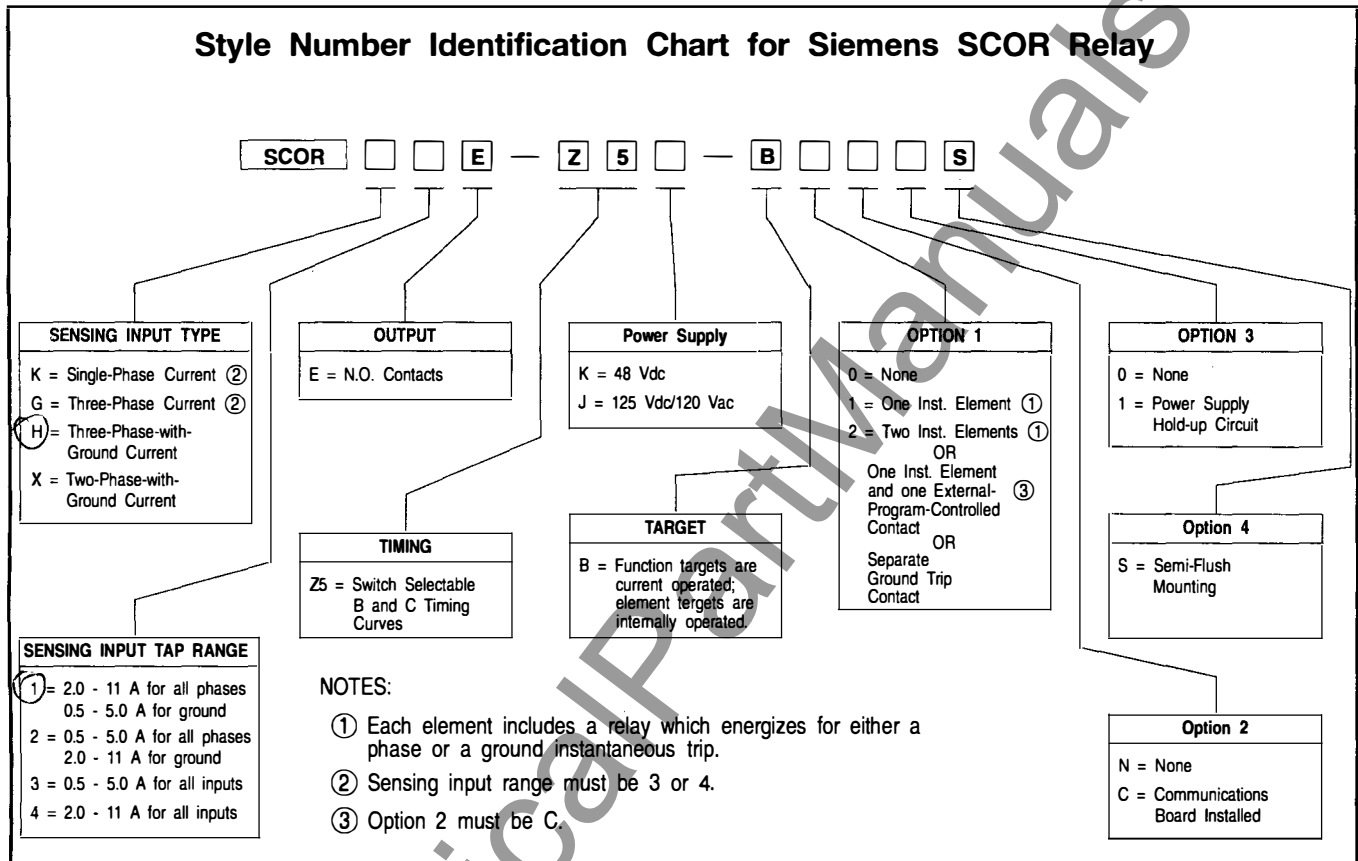

Figure 2 Style Number Identification Chart
1.11 Style Number (Figure 2)
The style number of the relay determines the features to be included (or ordered) for a particular application. Each available option is represented by a character as shown in **Figure 2** Style Number Identification Chart.